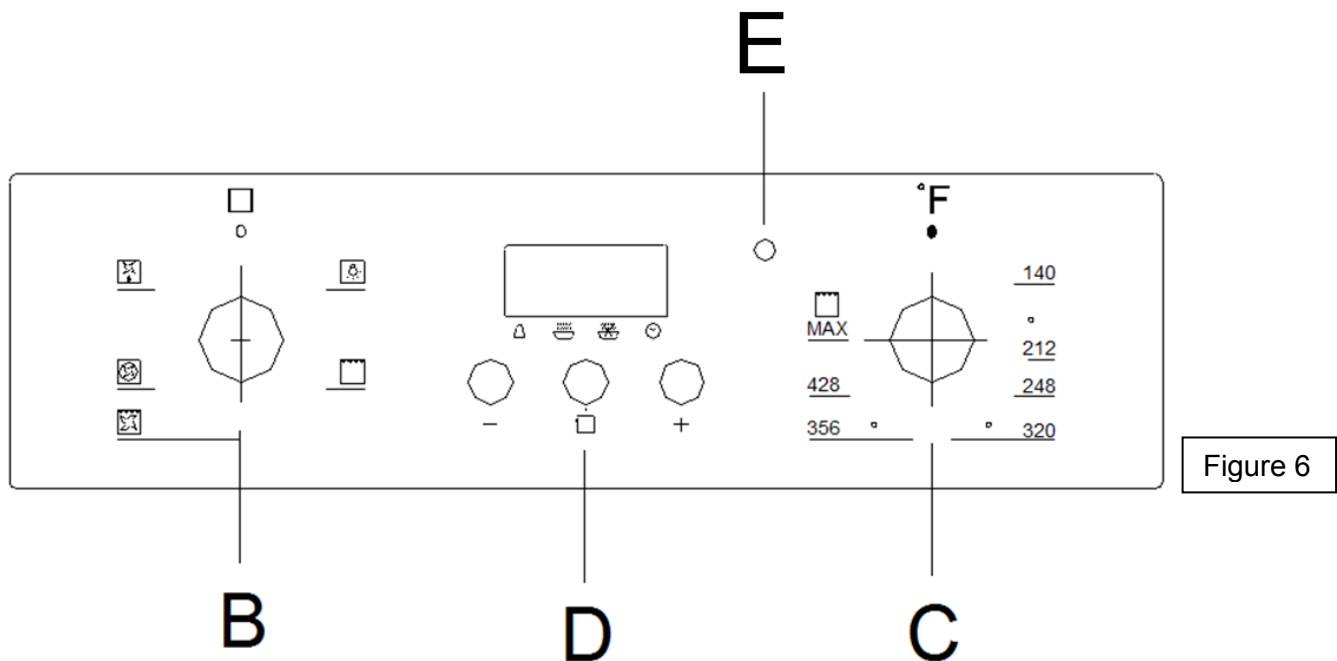

Figure 6
1. Press the function button (See Figure 6) repeatedly until the square symbol above the “” flashes, and press “+” or “-” button to set how long oven needs to cook.
3. Adjust Knob B and C (See Figure 6) to select cooking mode and temperature mode.
2. Press the function button (See Figure 6) repeatedly until the square symbol above “” is flashing, press “+” or “-” button and set the timer for how long the oven needs to cook.
4. Adjust Knob B and C (See Figure 6) to select cooking mode and temperature mode.
2. Press the function button (See Figure 6) repeatedly until the square symbol above “” flashes, press “+” or “-” button and set the time for oven to stop cooking.
- **Position Knob C to MAX.** (See Figure 6)
- **Position Knob C between 140° F and 390° F (60°C and 200°C)** (See Figure 6)
- **Position Knob C between 140° F and 480° F (60°C and 250°C)** (See Figure 6)
- **Position Knob C to any temperature.** (See Figure 6)
1. **Position Knob B to select**  . (See Figure 6)